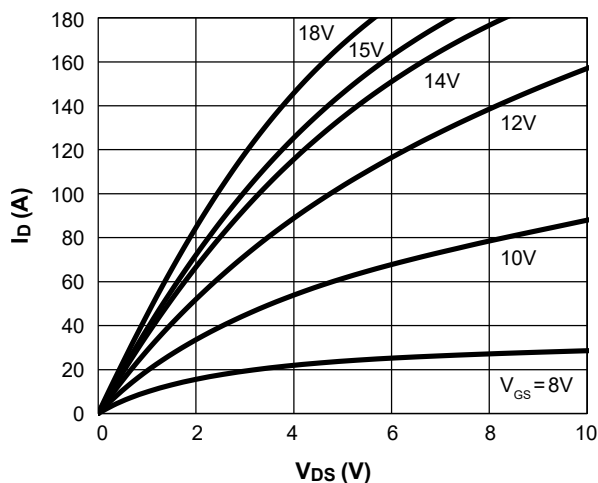

Figure 1. On-Region Characteristics $T_J = 25^\circ\text{C}$
- J. The static characteristics in Figures 1 to 8 are obtained using <300 ms pulses, duty cycle 0.5% max.